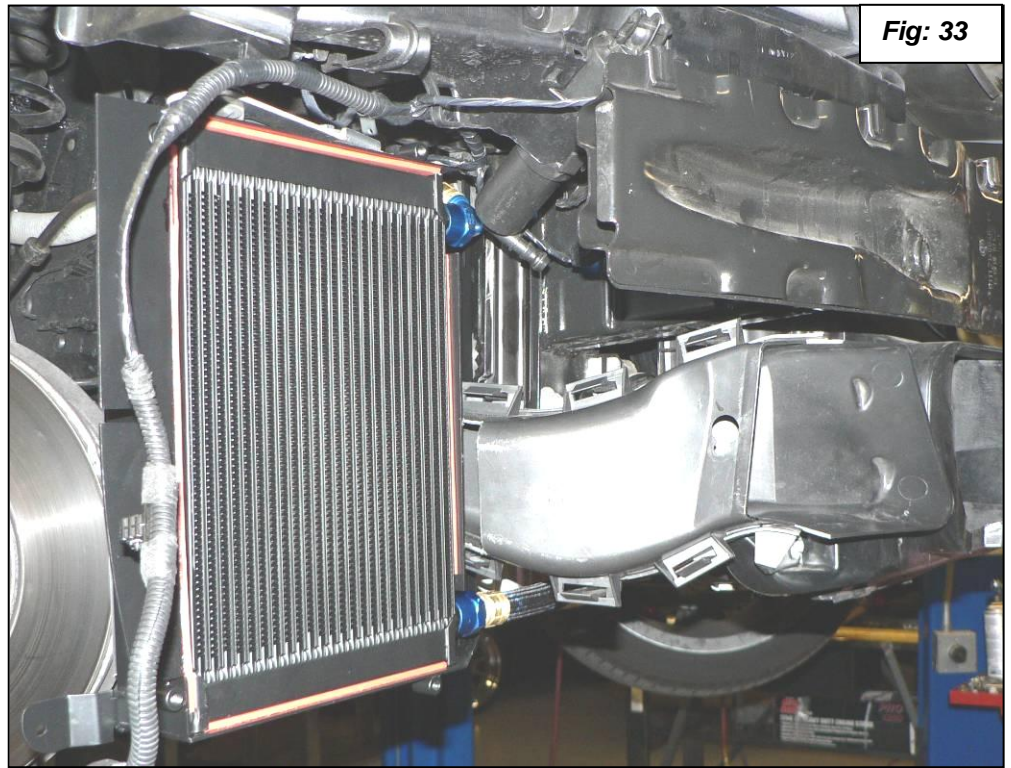

Fig: 33
42. Install the modified brake duct and check for clearance. With the oil cooler in a relaxed position you should have about $\frac{1}{2}$ " clearance as shown in **figure 33**.